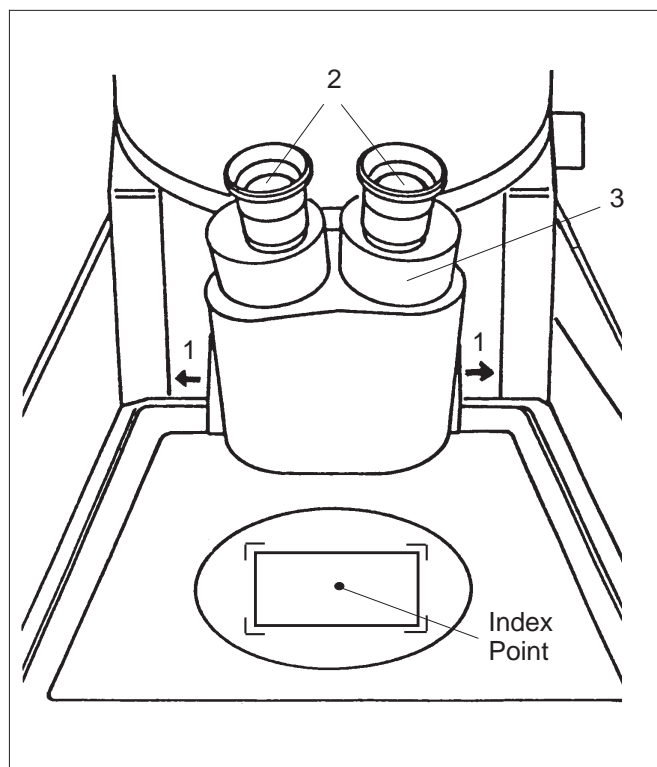

Fig. 4-7: Adjustment of viewing microscope
- The emmetropic user sets both eyepieces (2) to 0 dpt. (Fig. 4-7).
- PD adjustment by turning the binocular tubes (3) in or out.